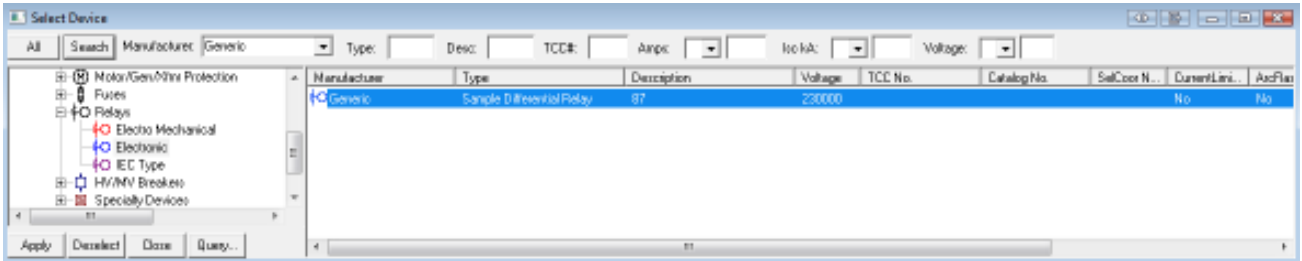

Figure 8
- Once the differential is displayed on top of the Functions button, click the Library button to select a generic model for this differential function, similar to the device in Figure 8. Click Apply and Close to review the TCC of the new differential function in Captor.